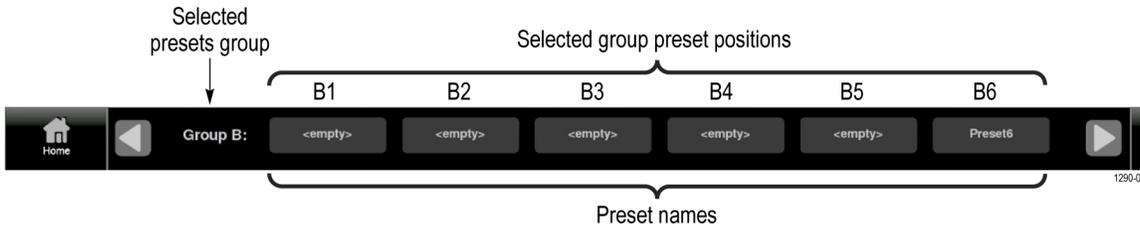

Figure 34: Preset selection controls (Group B shown)
- e. When you select **OK**, the preset name changes from **<empty>** to **Preset<number>**, where the number is the preset position within the preset group. (See Figure 34.)